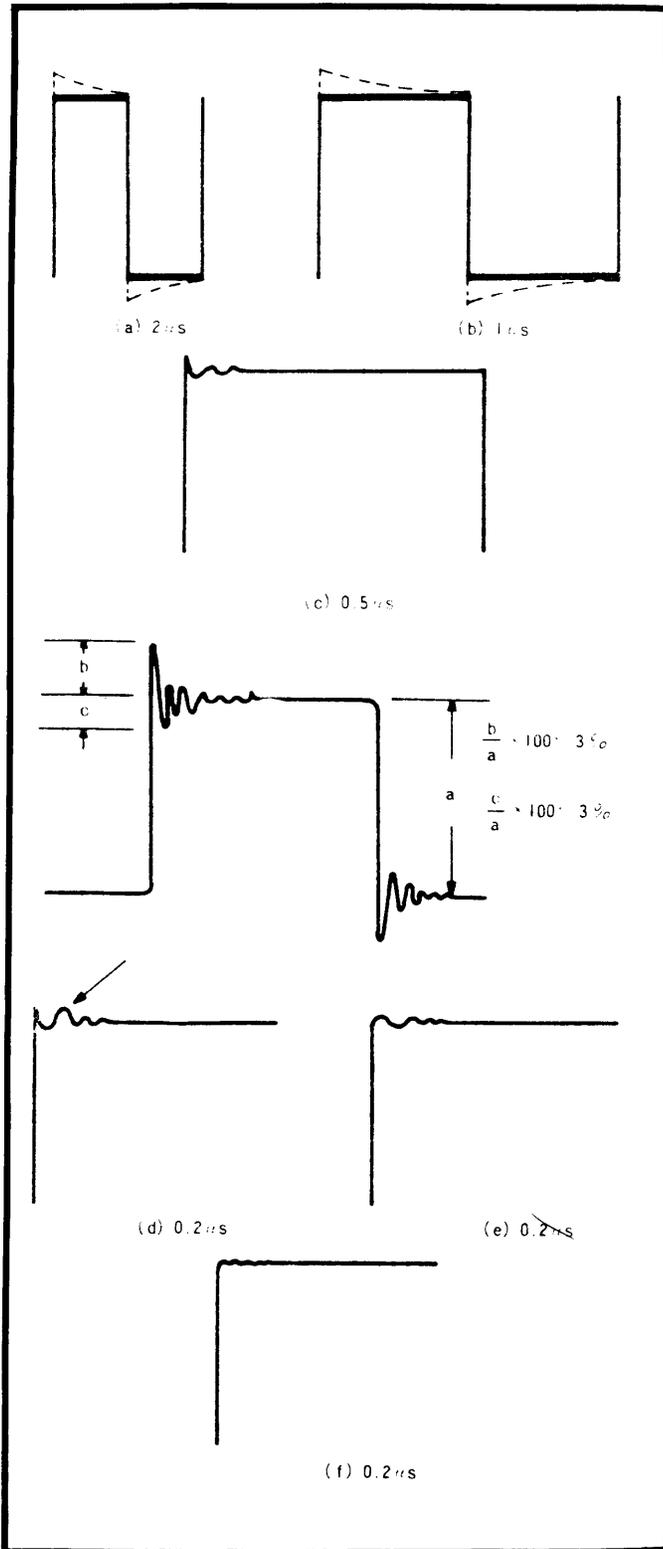

Fig. 21. Vertical Amplifier Frequency Compensation Adjustment.
4. Rotate SWEEP TIME/DIV control from 2 μ s to 0.2 μ s, observing the leading edge of the square wave as in Fig. 21. Make adjustments in the sequence listed in Table 7 for best overall square wave characteristic. Overshoot must be less than 3% (0.2 division). However, do not eliminate all overshoot as high frequency response will be degraded.